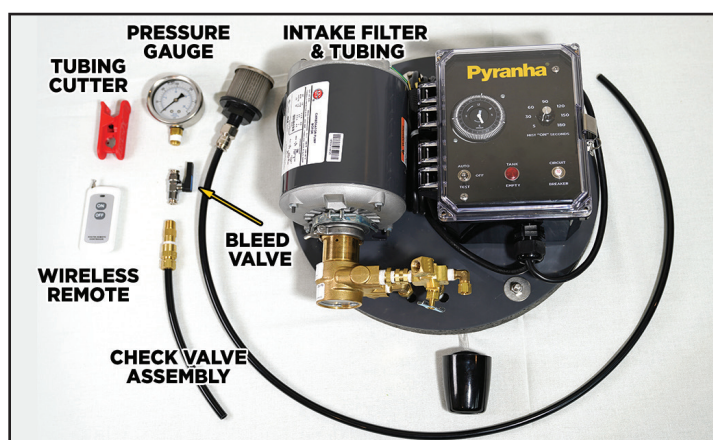

FIGURE 1
1. At the installation site, remove all equipment from the corrugated box and the polyethylene drum and replace the drum lid. Check the image in Figure 1 below to identify each piece of equipment.